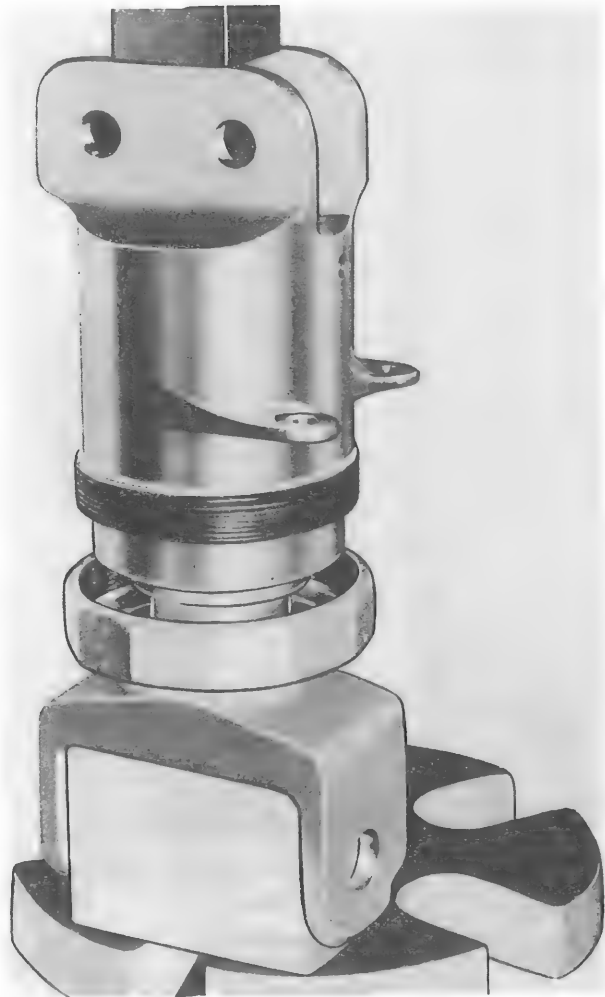

Figure 6-14. Pressing Sleeve on Spindle Assembly
g. Press sleeve (11) onto spindle (19). (See figure 6-14.) Handtighten outer nut (18, figure 6-8) on sleeve as the sleeve is being pressed onto spindle.
h. Tighten outer nut (18) to a torque of 140 to 180 foot-pounds, using the wrench assembly, part No. S1670-10451, or crowfoot attachment, part No. S1670-10334, and a suitable torque indicating wrench.